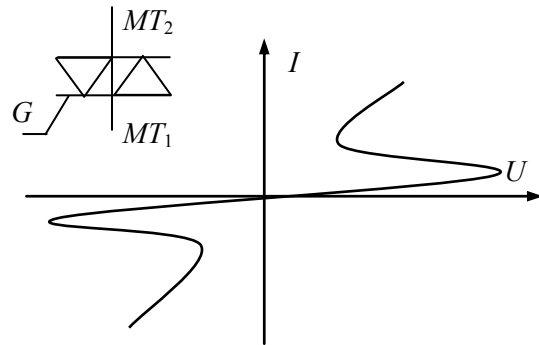

Fig. 1.53
**Triac.** A triac (*bi-directional thyristor, simistor, tetrode thyristor*) is a three-terminal five-layer device capable of conducting current in both directions. It is identified as a three-electrode ac semiconductor switch that switches conduction on and off during each alternation. Fig. 1.53 gives a typical current-voltage curve and a schematic symbol of the triac. The triac is the equivalent of the two reverse-parallel-connected thyristors with one common gate. Its terminals are marked as  $MT_1$  (main terminal 1),  $MT_2$  (main terminal 2), and G (gate).